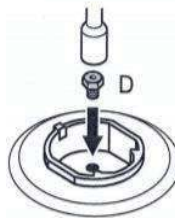

Figure 7.2
Fix the injector (D) you want to convert as shown in the Figure 7.2 (see Table 1 at the end of this manual).